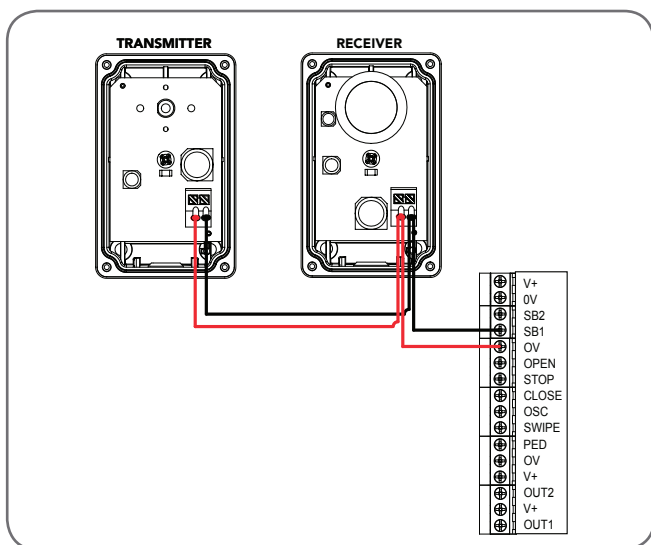

Fig 6.3
- By default the NeoSlider™ will take two wire safety beams (connect one wire to SB1 input and the second wire to 0V, next to the SB1 terminal (Fig. 6.3)).